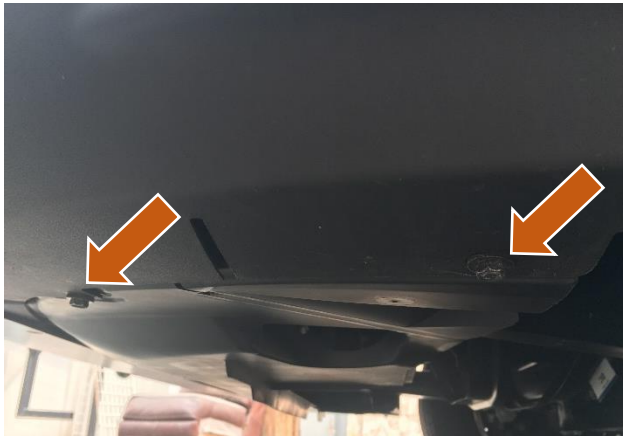

Figure 8: Bolts on Underside of Bumper
8. Remove the eight (8) 13mm bolts connecting the factory bumper to the under-carriage plastic (Figure 8).